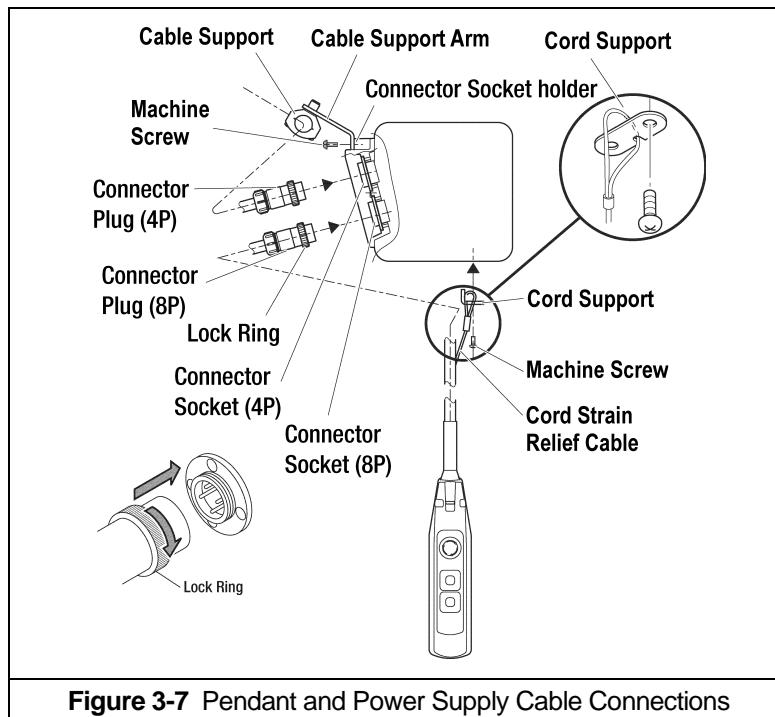

Figure 3-7 Pendant and Power Supply Cable Connections
- Refer to Figure 3-7.
- For a manual trolley the guide wire should be positioned slightly outside the hoist's Cable Support as shown in Figure 3-7.